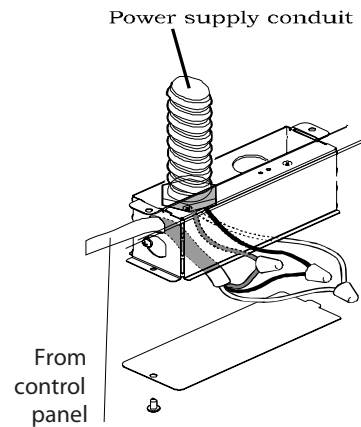

Figure 5
- Remove the j-box cover as shown in **Figure 5**.